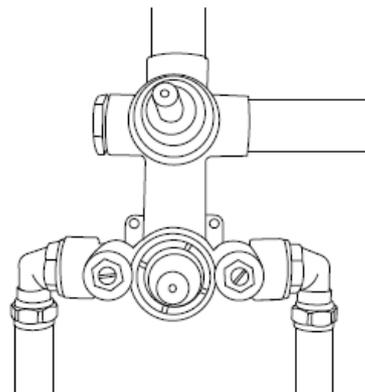

Fig 3
6. Position the mixer valve onto the hot and cold water feed pipes and tighten the compression nuts (See Fig 3). Hold mixer valve in place and secure to the wall with screws. Make sure the mixer valve hot feed is connected to the inlet marked hot and the cold inlet marked cold. The valve will not work correctly if connected the wrong way.